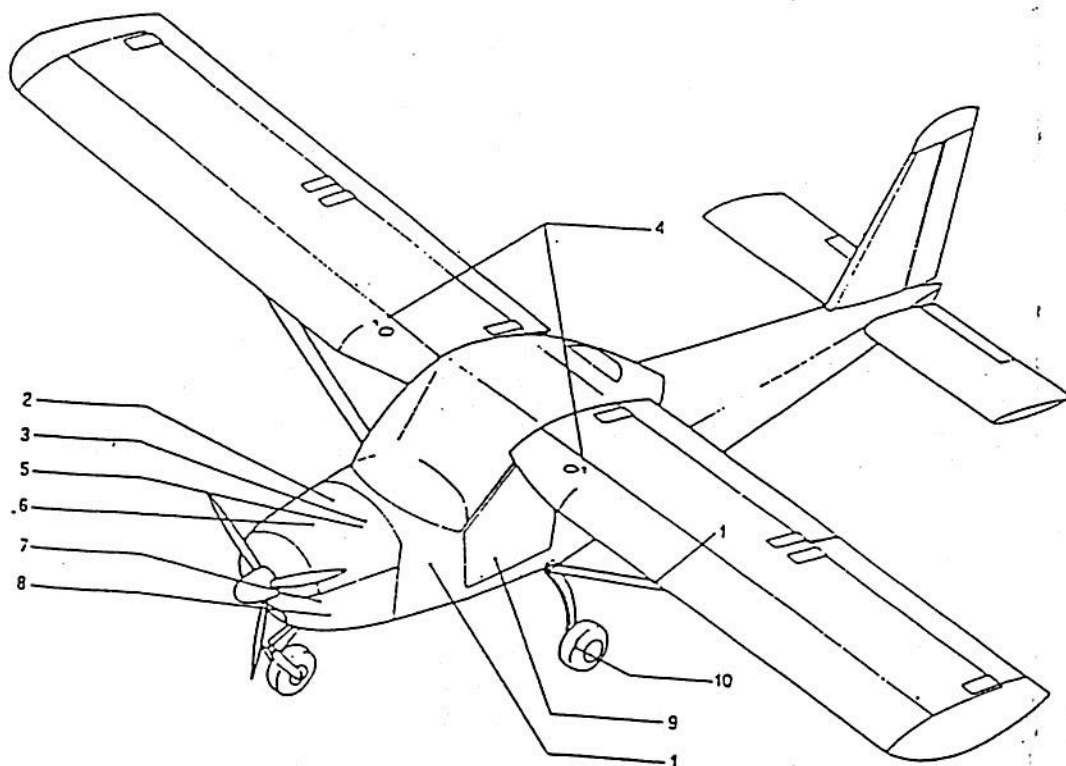

FIGURE 3 - POINTS OF FREQUENT INSPECTION AND MAINTENANCE
1.7 POINTS OF FREQUENT INSPECTION AND MAINTENANCE (See Figure 3)